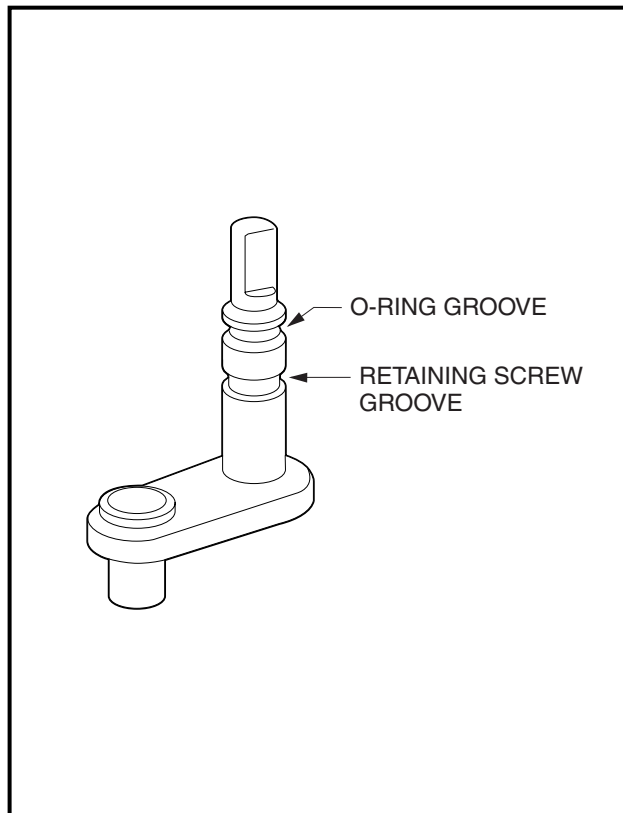

Figure 19-41 Differential Lock Shaft
1. If previously removed, slide the O-Ring into the top groove of the differential lock shaft (**Figure 19-41, Page 19-21**).